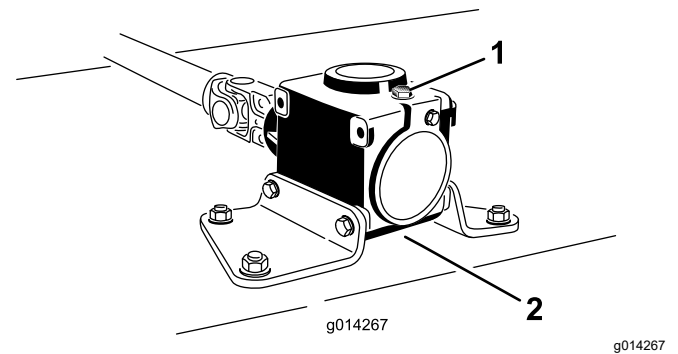

Figure 22
6. Remove the dipstick/fill plug from the top of the gearbox (Figure 22).
6. Remove the dipstick/fill plug from the top of the gearbox (Figure 22) and make sure that the lubricant is between the marks on the dipstick.